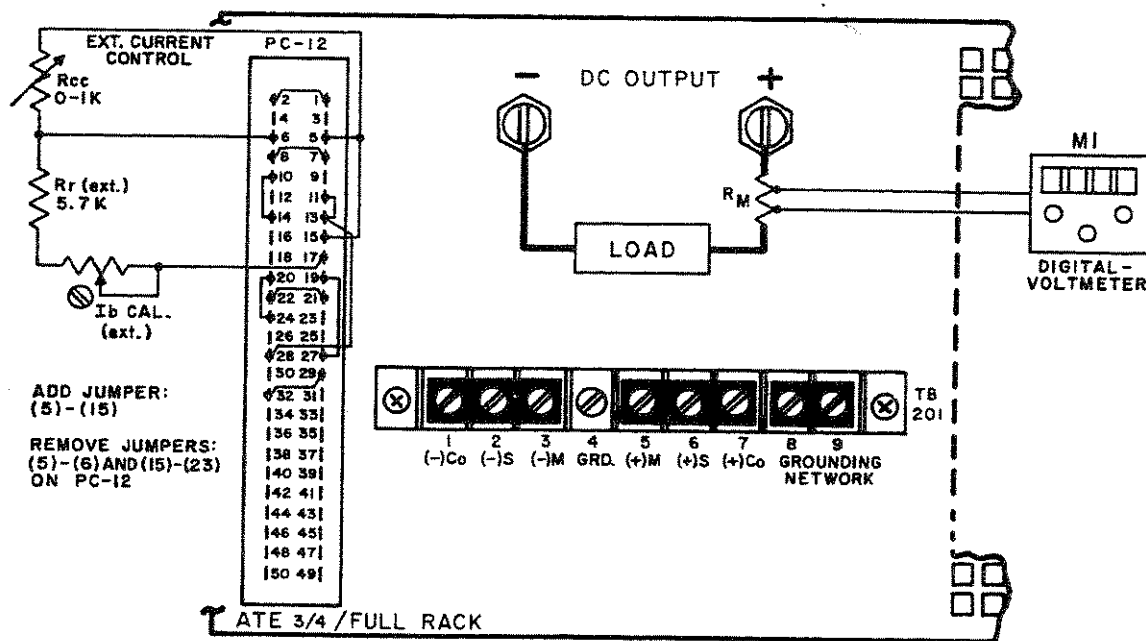

FIG. 3-13 CONNECTIONS FOR ATE OUTPUT CURRENT CONTROL WITH A TWO-TERMINAL RESISTANCE.
- 1) Connect the external components, the LOAD and the PRECISION VOLTMETER (M1) to the ATE as shown in FIG. 3-13. NOTE: The output current value can be measured directly by means of a suitable ammeter in series with the load or, as indicated in FIG. 3-13, indirectly by means of the precision voltmeter (M1) across a current measuring resistor ( $R_M$ ).  $R_M$  should be selected such that a convenient range on the precision voltmeter can be used, e.g., for a 10 ampere output current, use a 0.1 ohm resistor to produce one volt full scale. If an electronic voltmeter is used, it should be battery operated to avoid ground loops.